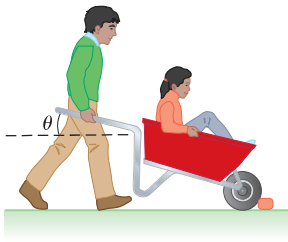

Figure P12.21 Problems 21 and 22.
21. John is pushing his daughter Rachel in a wheelbarrow when it is stopped by a brick 8.00 cm high (Fig. P12.21). The handles make an angle of $\theta = 15.0^\circ$ with the ground. Due to the weight of Rachel and the wheelbarrow, a downward force of 400 N is exerted at the center of the wheel, which has a radius of 20.0 cm. (a) What force must John apply along the handles to just start the wheel over the brick? (b) What is the force (magnitude and direction) that the brick exerts on the wheel just as the wheel begins to lift over the brick? In both parts, assume the brick remains fixed and does not slide along the ground. Also assume the force applied by John is directed exactly toward the center of the wheel.
22. John is pushing his daughter Rachel in a wheelbarrow when it is stopped by a brick of height h (Fig. P12.21). The handles make an angle of θ with the ground. Due to the weight of Rachel and the wheelbarrow, a downward force mg is exerted at the center of the wheel, which has a radius R . (a) What force F must John apply along the handles to just start the wheel over the brick? (b) What are the components of the force that the brick exerts on the wheel just as the wheel begins to lift over the brick? In both parts, assume the brick remains fixed and does not slide along the ground. Also assume the force applied by John is directed exactly toward the center of the wheel.